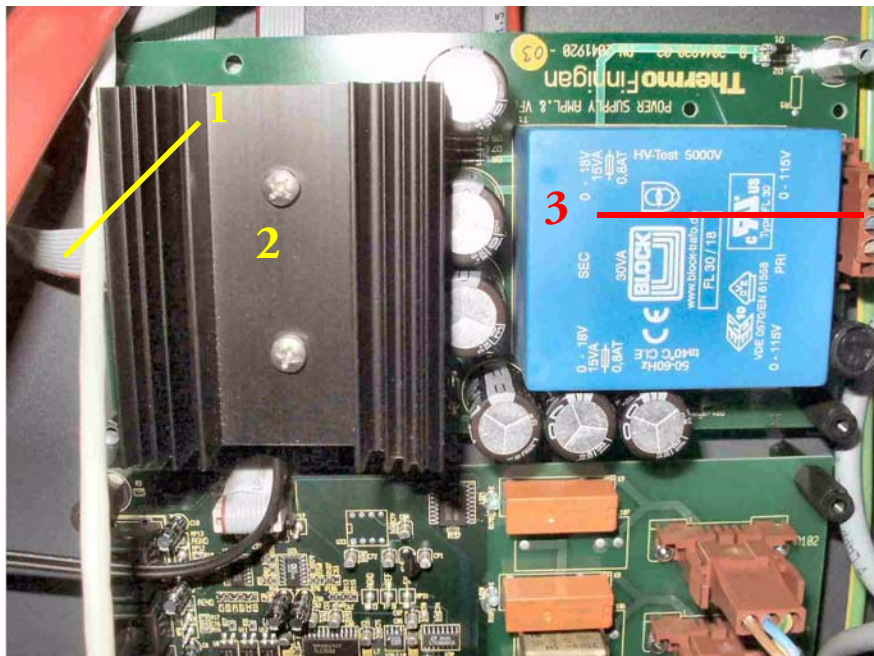

Figure 2-62. Power Supply for Amplifiers and VFC
The power supply for amplifiers and voltage-frequency converter, **5** in Figure 2-53 and Figure 2-62, is also called 55 V power supply. It provides the different supply voltages for the amplifiers. Table 2-27 summarizes its components.
* See Figure 2-62.